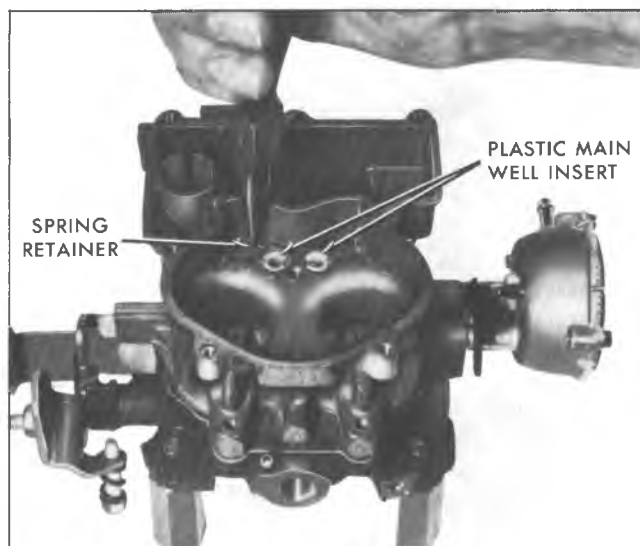

Fig. 6C-Removing Spring Retainer
4. Using a pair of long nosed pliers, remove pump discharge spring retainer (Fig. 6C). Then, spring and check ball may also be removed from discharge passage.
5. Install plastic main well inserts into the main fuel wells located beneath the venturi cluster and make sure they are seated in recesses provided (Fig. 6C). Then install venturi cluster and gasket, tighten three screws evenly and securely. Make certain center screw is fitted with a gasket to prevent pump discharge leakage.